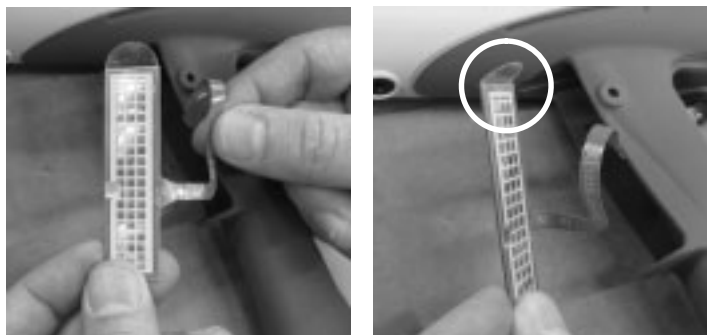

Figure 6-10 Installing the Trigger Switch – Step 3
- See Figure 6-10. Straighten the ribbon cable, then bend the pull tab at the top of the switch so that it is perpendicular to the switch.